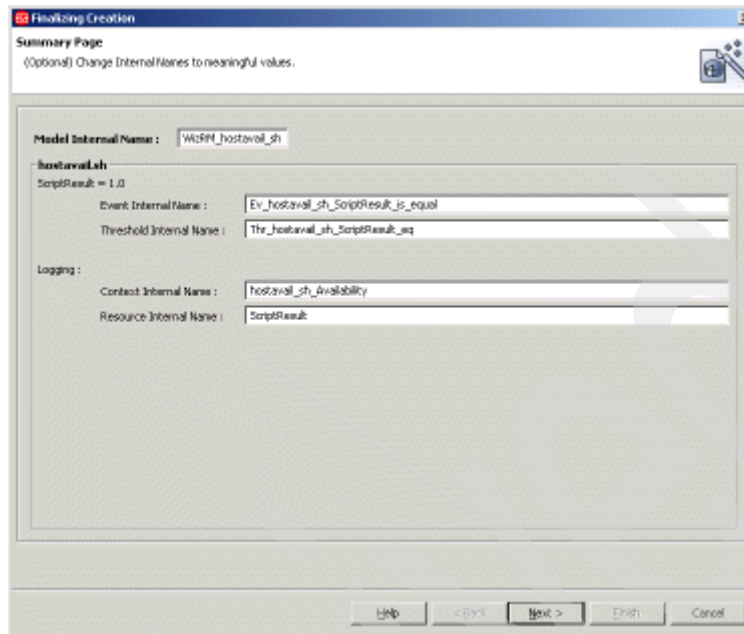

Figure 9-46 Finalizing Creation: Summary Page window
17. Select **Finish**. The Finalizing Creation: Summary Page window displays as shown in Figure 9-46 on page 467.